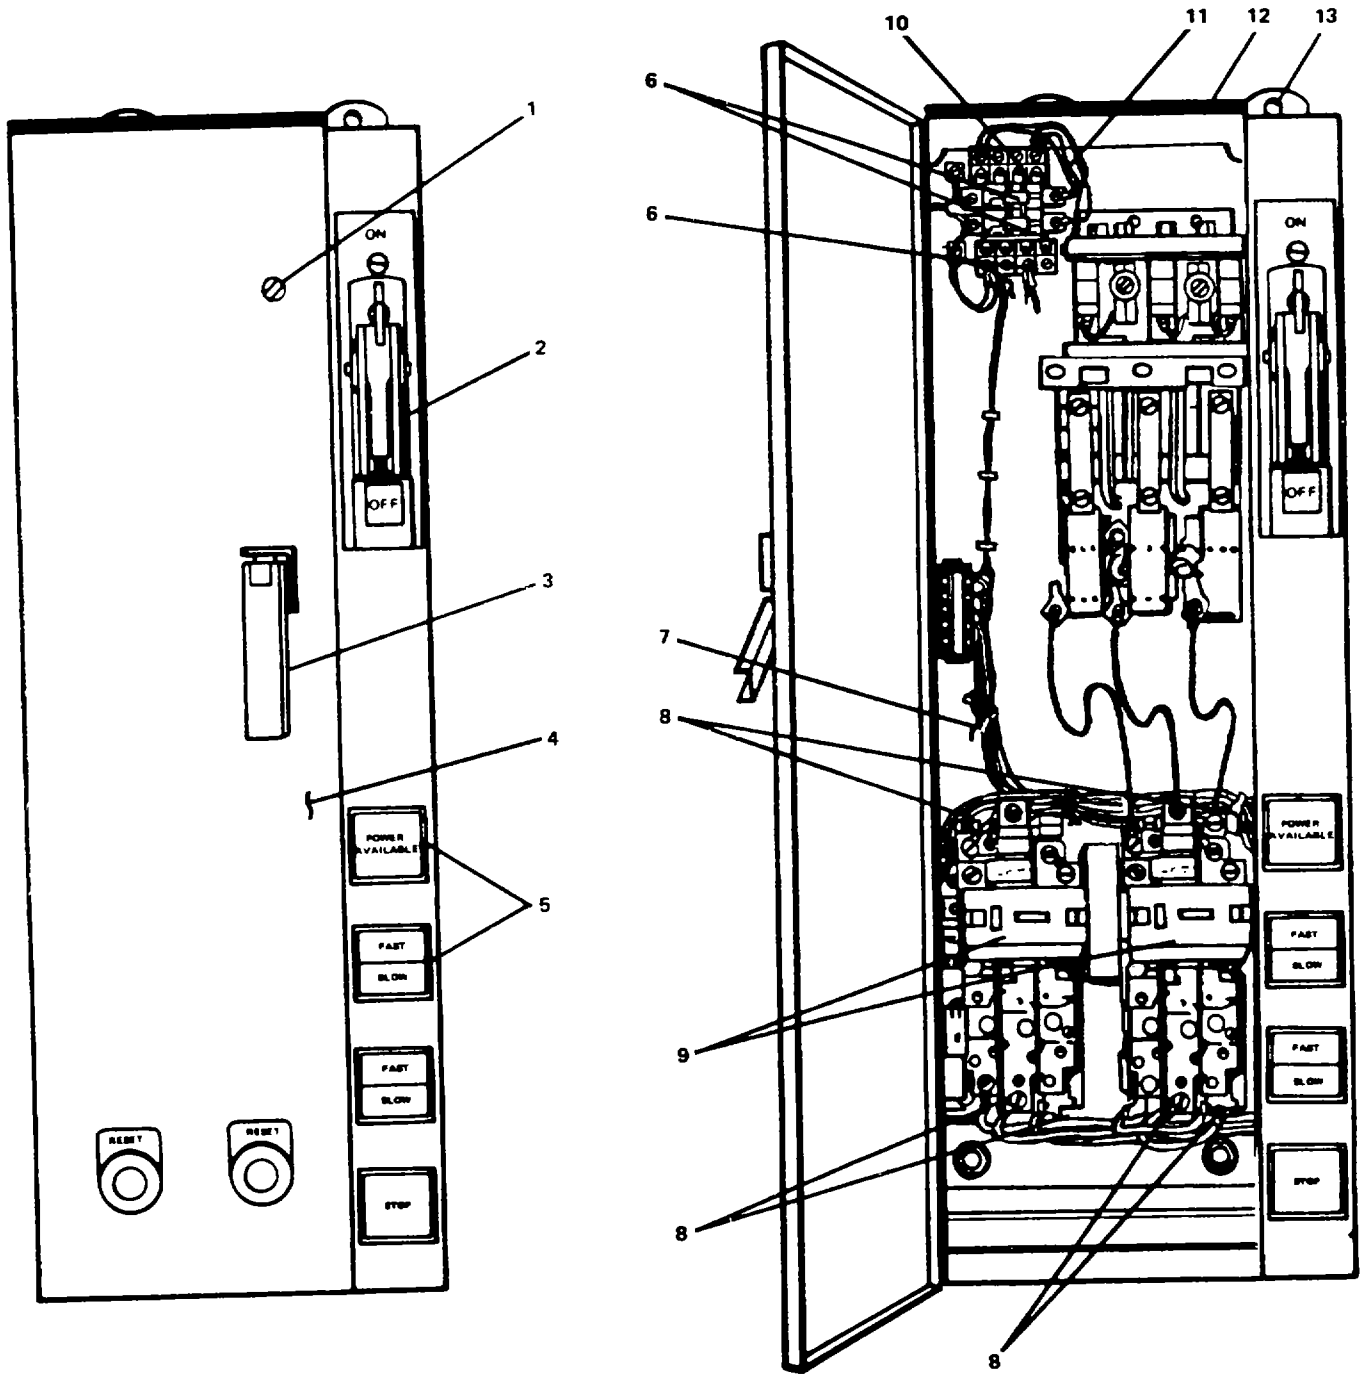

Figure 2-77. Motor Controller (A 710BQ 7/A 710CQ7).
a. Remove lens covers and lamps (5, Figure 2-77) from indicators.